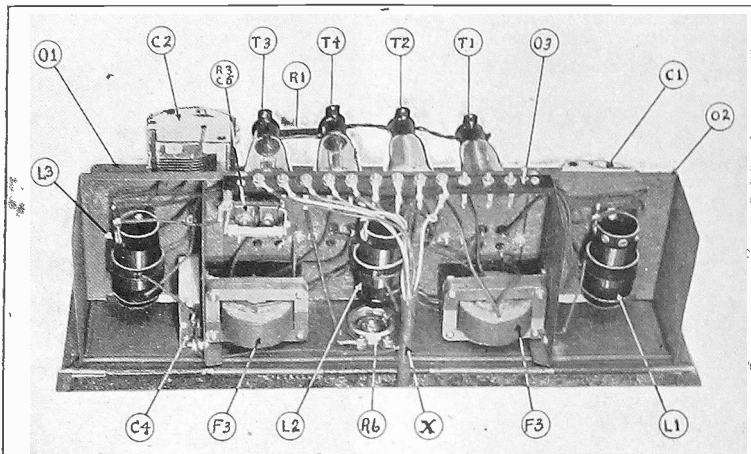

FIG. 617
(1)—See Fig. 617 for such a photograph of the Concertrola.